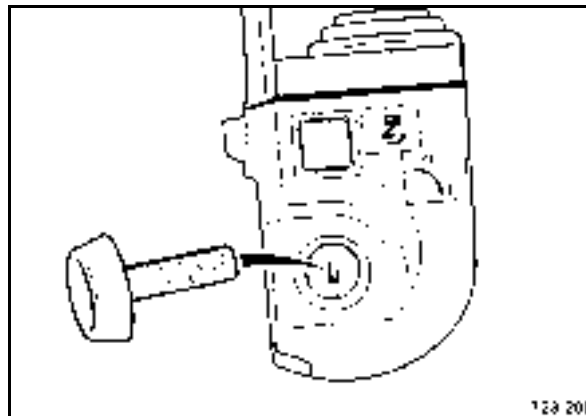

Fig. 72
- Pull off the ignition key (Fig. 72) and store it in a safe place.